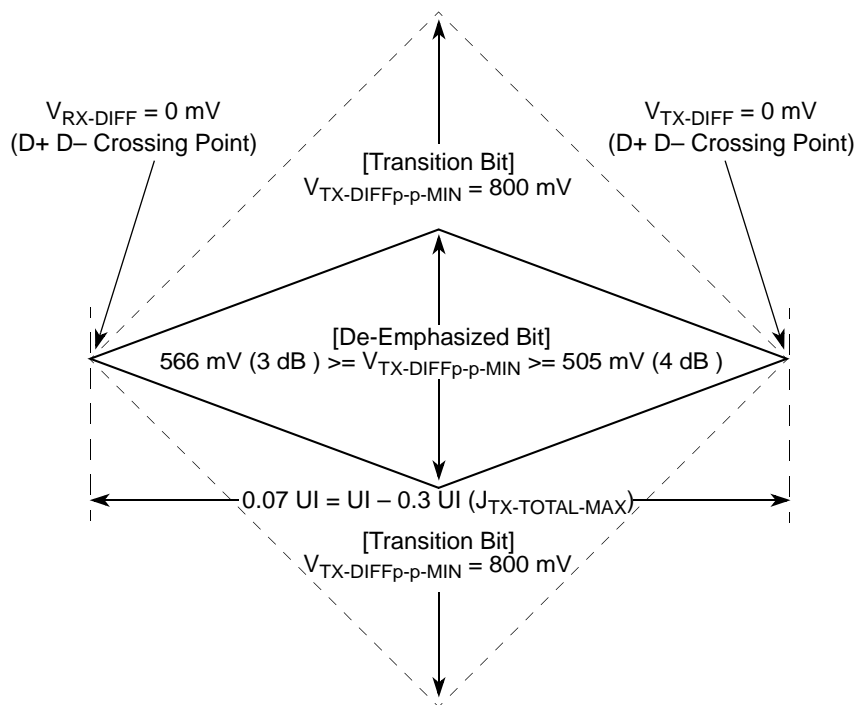
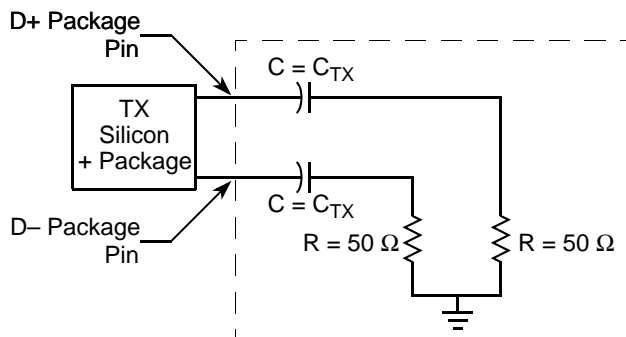

Figure 55. Minimum Transmitter Timing and Voltage Output Compliance Specifications
Figure 57. Compliance Test/Measurement Load
2. Specified at the measurement point into a timing and voltage compliance test load as shown in Figure 57 and measured over any 250 consecutive TX UIs. (Also refer to the transmitter compliance eye diagram shown in Figure 55.)
4. The Transmitter input impedance shall result in a differential return loss greater than or equal to 12 dB and a common mode return loss greater than or equal to 6 dB over a frequency range of 50 MHz to 1.25 GHz. This input impedance requirement applies to all valid input levels. The reference impedance for return loss measurements is 50 ohms to ground for both the D+ and D- line (that is, as measured by a Vector Network Analyzer with 50 ohm probes—see Figure 57). Note that the series capacitors  $C_{\text{TX}}$  is optional for the return loss measurement.
5. Measured between 20-80% at transmitter package pins into a test load as shown in Figure 57 for both  $V_{\text{TX-D+}}$  and  $V_{\text{TX-D-}}$ .
The TX eye diagram in Figure 55 is specified using the passive compliance/test measurement load (see Figure 57) in place of any real PCI Express interconnect + RX component.
2. Specified at the measurement point and measured over any 250 consecutive UIs. The test load in Figure 57 should be used as the RX device when taking measurements (also refer to the Receiver compliance eye diagram shown in Figure 56). If the clocks to the RX and TX are not derived from the same reference clock, the TX UI recovered from 3500 consecutive UI must be used as a reference for the eye diagram.
4. The Receiver input impedance shall result in a differential return loss greater than or equal to 15 dB with the D+ line biased to 300 mV and the D- line biased to -300 mV and a common mode return loss greater than or equal to 6 dB (no bias required) over a frequency range of 50 MHz to 1.25 GHz. This input impedance requirement applies to all valid input levels. The reference impedance for return loss measurements for is 50 ohms to ground for both the D+ and D- line (that is, as measured by a Vector Network Analyzer with 50 ohm probes - see Figure 57). Note: that the series capacitors CTX is optional for the return loss measurement.
The RX eye diagram in Figure 56 is specified using the passive compliance/test measurement load (see Figure 57) in place of any real PCI Express RX component.
Note: In general, the minimum Receiver eye diagram measured with the compliance/test measurement load (see Figure 57) is larger than the minimum Receiver eye diagram measured over a range of systems at the input Receiver of any real PCI Express component. The degraded eye diagram at the input Receiver is due to traces internal to the package as well as silicon parasitic characteristics which cause the real PCI Express component to vary in impedance from the compliance/test measurement load. The input Receiver eye diagram is implementation specific and is not specified. RX component designer should provide additional margin to adequately compensate for the degraded minimum Receiver eye diagram (shown in Figure 56) expected at the input Receiver based on some adequate combination of system simulations and the Return Loss measured looking into the RX package and silicon. The RX eye diagram must be aligned in time using the jitter median to locate the center of the eye diagram.
The reference impedance for return loss measurements is 50. to ground for both the D+ and D- line (that is, as measured by a Vector Network Analyzer with 50. probes—see Figure 57). Note that the series capacitors, CTX, are optional for the return loss measurement.
The AC timing and voltage parameters must be verified at the measurement point, as specified within 0.2 inches of the package pins, into a test/measurement load shown in Figure 57.